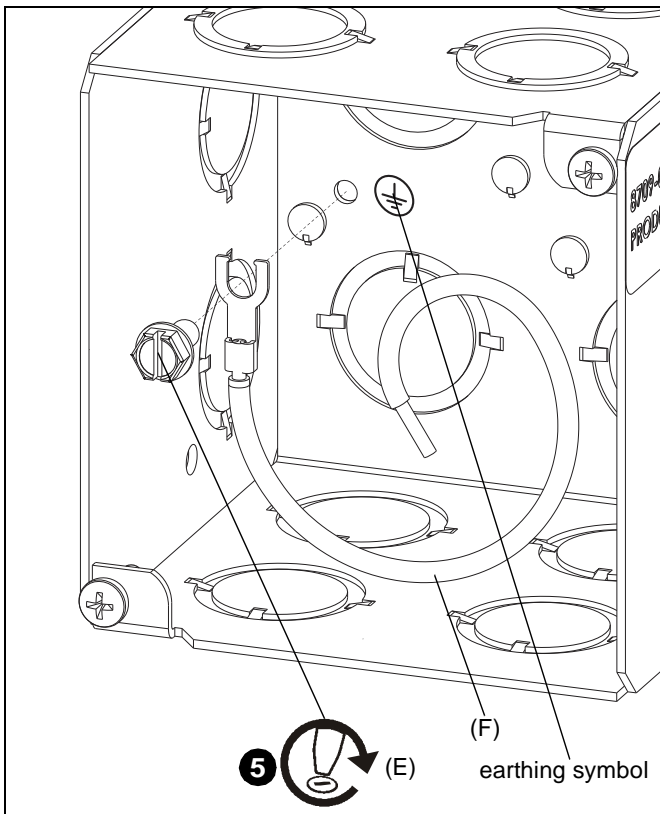

Figure 9
- Use #10-32 x 3/8" flange screw (E) and flathead screwdriver to attach grounding wire (F) to housing at hole near earthing symbol. (See Figure 9)